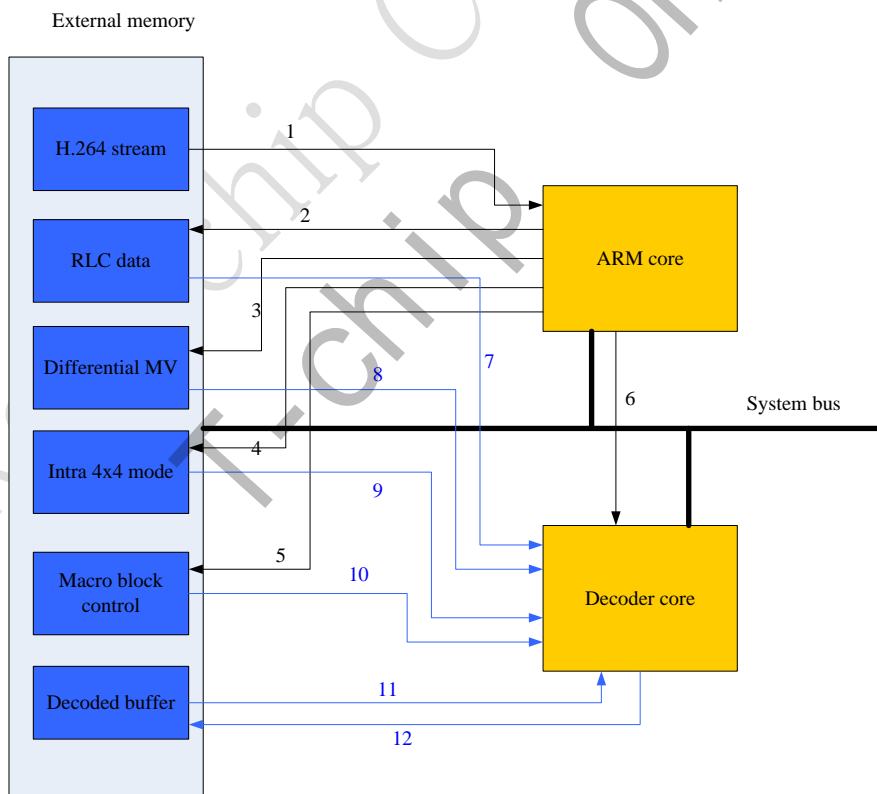

Fig. 25-9 Dataflow of SW performs entropy decoding in video decoder
from SW to HW. The dataflow of this mode is as Fig. 25-9. In this case the decoder software starts decoding the first picture by parsing the stream headers (1), and by performing entropy decoding. Software then writes the following items to external memory: